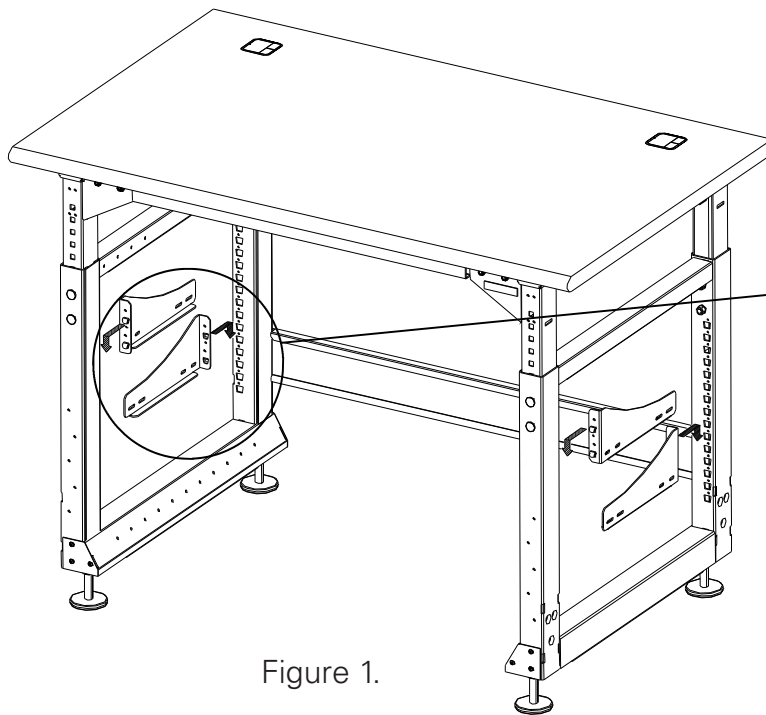

Figure 1.
1. Determine the location for the Full Shelf and attach the Brackets to the TechBench™ as shown in figure 1.